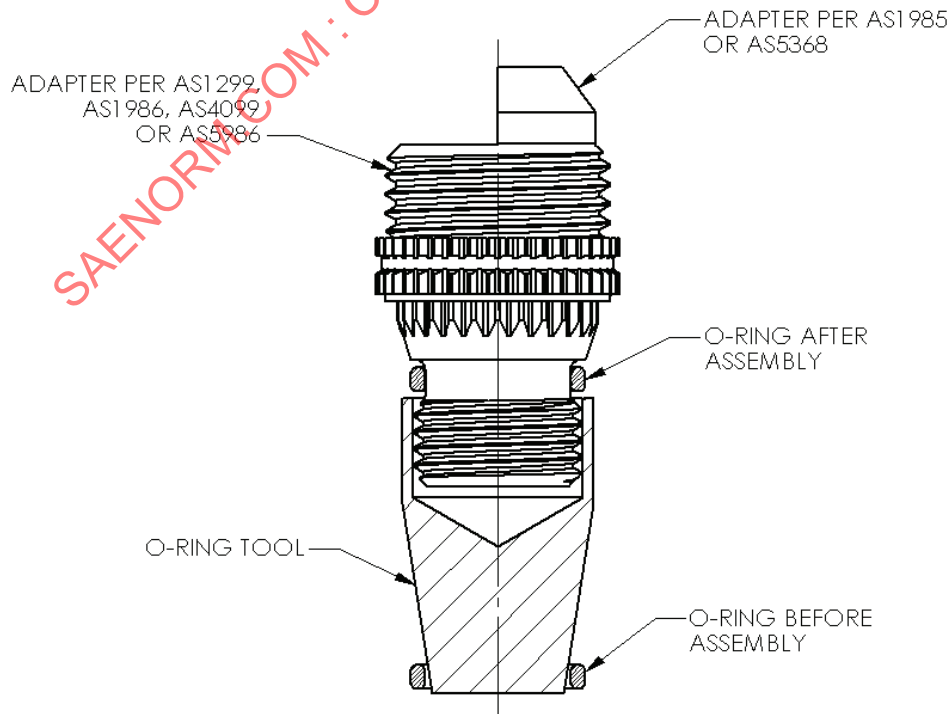

FIGURE 2 - O-RING INSTALLATION
5.1.1 Place the O-ring (per Table 2) over the small thread of the adapter. Submerge the adapter, O-ring tool and O-ring in the fluid to be used in the working system, or a lubricant compatible with the system fluid and all components. Slide the O-ring over the O-ring tool and onto the adapter. Be sure that the O-ring is not twisted and is properly seated in the groove of the adapter. See Figure 2.